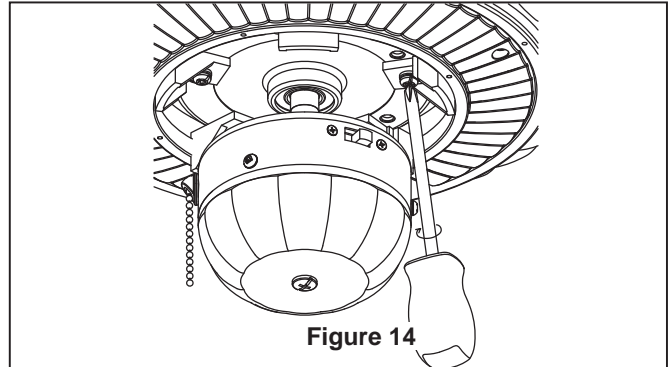

Figure 14
- 1. Remove and discard the (rubber) motor “stops” by removing the four screws. (Figure 14)